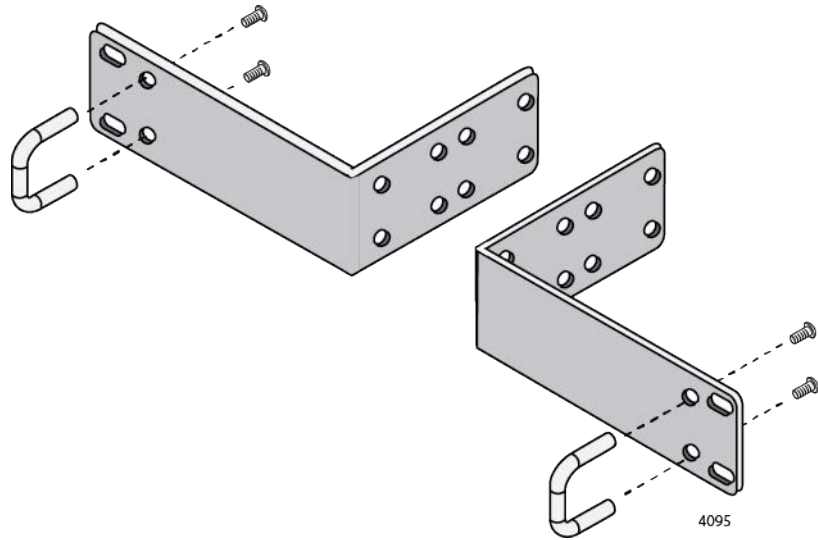

Figure 28. Attaching the Handles to the RKMT-J14 Brackets
1. Attach the two handles to the RKMT-J14 Brackets using the four M3x6mm screws included with the switch. Refer to Figure 28 on page 77.